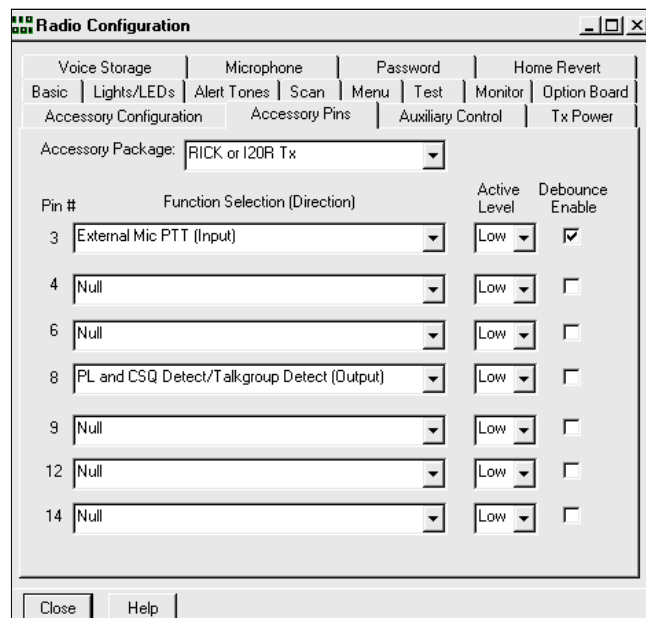

Figure 8-12. Basic (R*I*C*K) Bi-directional Repeater, Accessory Pins, Transmit Radio
11. Click on the “Pin #8” down button. Select “PL and CSQ Detect/Talkgroup Detect (Output)”, Active Level “Low”. Your screen should appear similar to Figure 8-12.